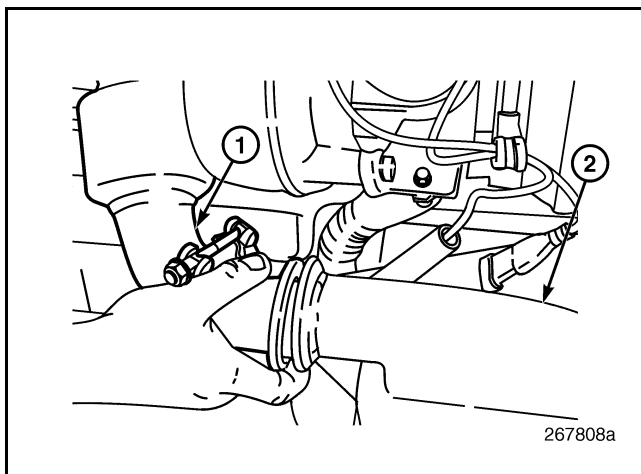

Figure 138 — Hot Tube-to-Cooler Connection
1. Loosen and remove the clamp connecting the hot tube-to-EGR cooler inlet flange (Figure 138).